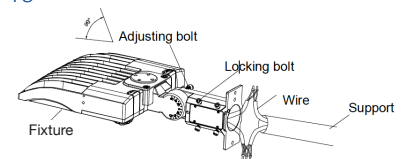

Fig. 17
2. Loosen the four bolts on the MM bracket, connect the wires correctly, and pull the wires into the poles (Fig. 17).
3. Place the bracket into the pole and lock the four bolts (Fig. 17).
Note: Adjustable angle is 0-90° (Fig. 17).